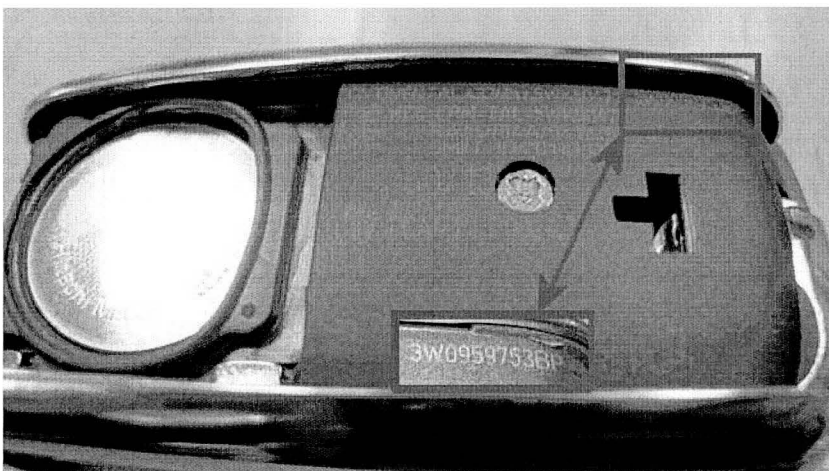

Figure 1
2. With the key fob back removed check the part number of the key, the part number is located as shown in Figure 1